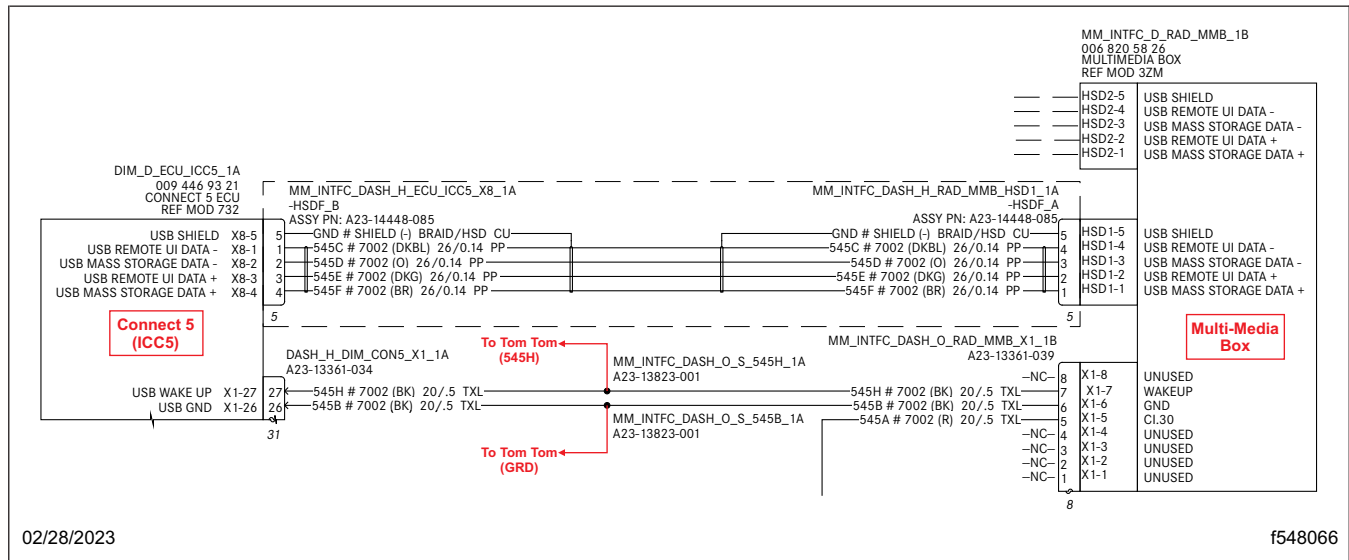
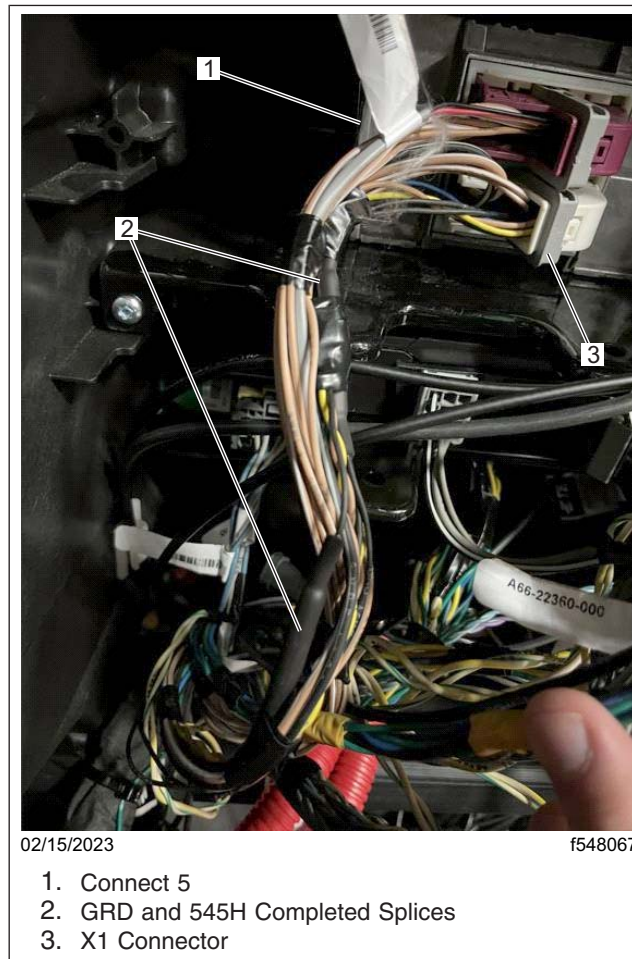

Fig. 21, Splicing Harness
Fig. 22, Completion of Splicing
13.7 About 6 inches from the Connect 5 X1 connector, splice the black GRD circuit of the harness being installed to the black 545B circuit leading to the Connect 5 X1 connector. See **Fig. 21**. For splicing procedures, see **Section 54.00.100** of the *New Cascadia Workshop Manual*. See **Fig. 22**.
- 13.8 About 8 inches from the Connect 5 X1 connector, splice the black 545H circuit of the harness being installed to the black 545H circuit leading to the Connect 5 X1 connector. See Fig. 21 and Fig. 22.
- 13.9 Secure the spliced wires to the harness bundle as shown in Fig. 22. Plug the X1 connector back into the Connect 5 ECU.